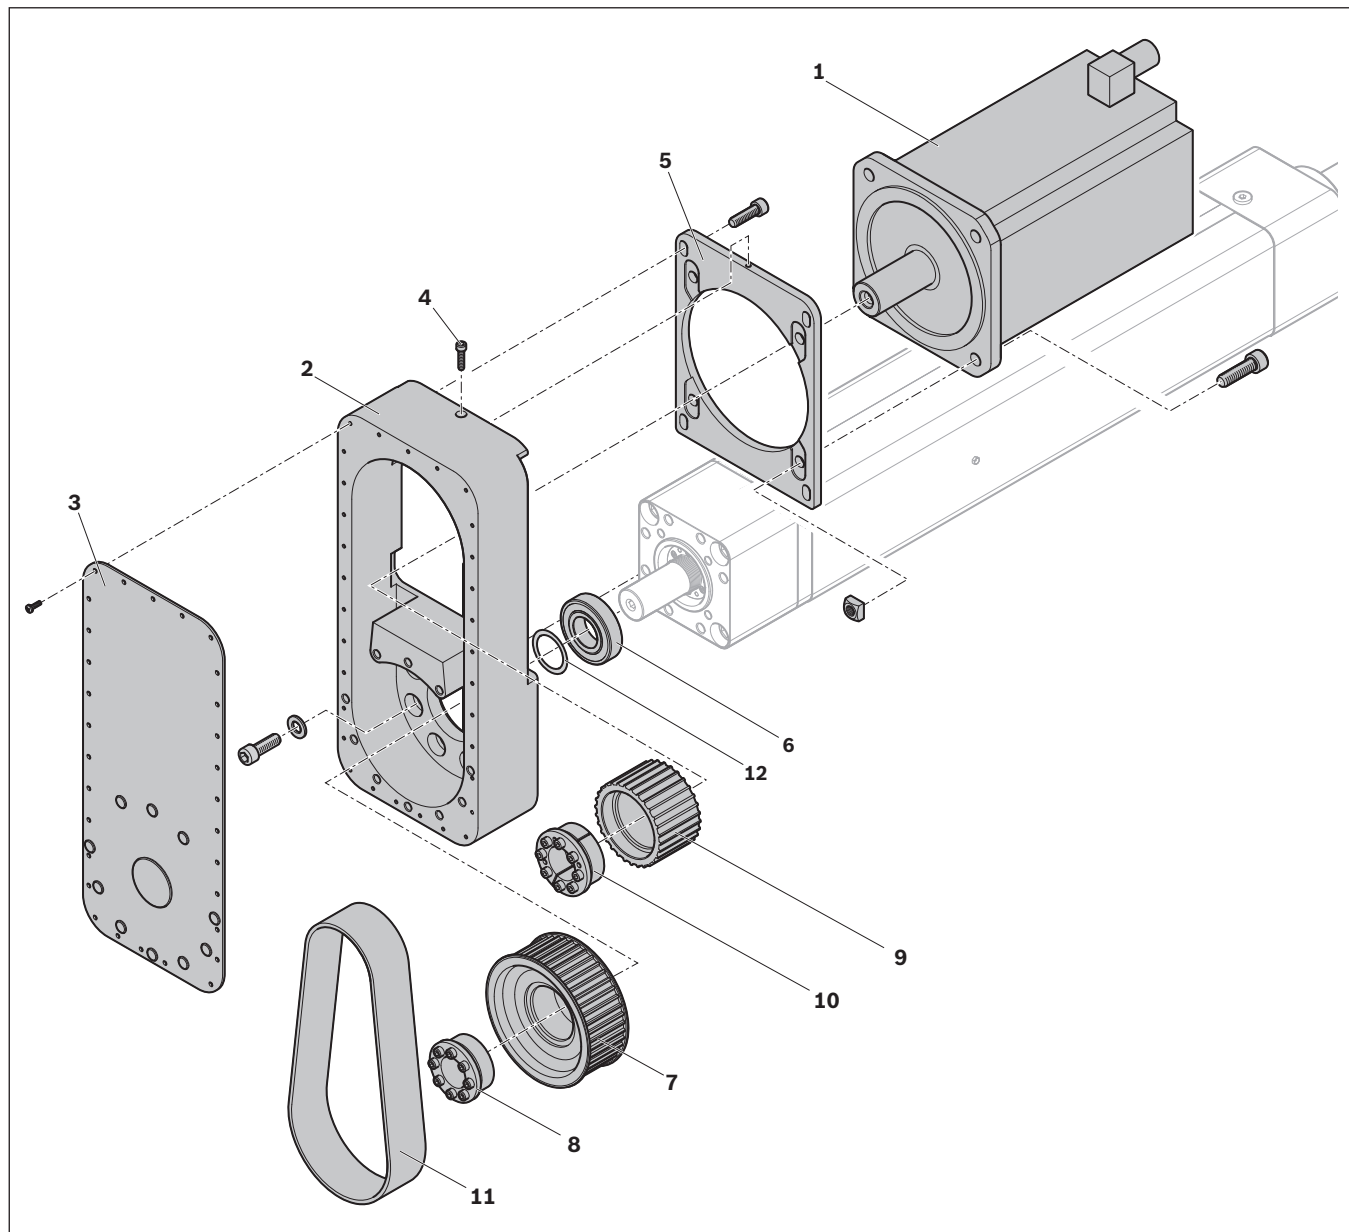
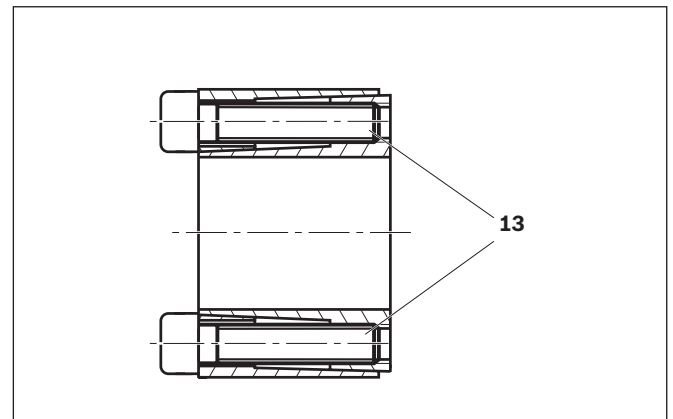

Fig. 19: Mounting the timing belt side drive and motor on the EMC-HP
Fig. 21: Tensioning unit
1. Push the bearing (6) onto the screw end.
2. Align the housing (2) to the bearing.
3. Screw on the housing (2) of the timing belt side drive to the EMC-HP. Observe the mounting orientation and the specified tightening torques ➔ Table 20 on page 40.
4. Push the washer (12) onto the screw end. Push the system-side belt pulley (7) with fitted toothed belt (11) and tensioning unit (9) onto the journal of the EMC-HP until it reaches the stop. ➔ Fig. 19 on page 22.
5. Push the tensioning unit (8) into the belt pulley (7) up to the stop.
6. Evenly tighten the screws (13) cross-wise in several stages to the specified tightening torques ➔ Fig. 21 on page 23.